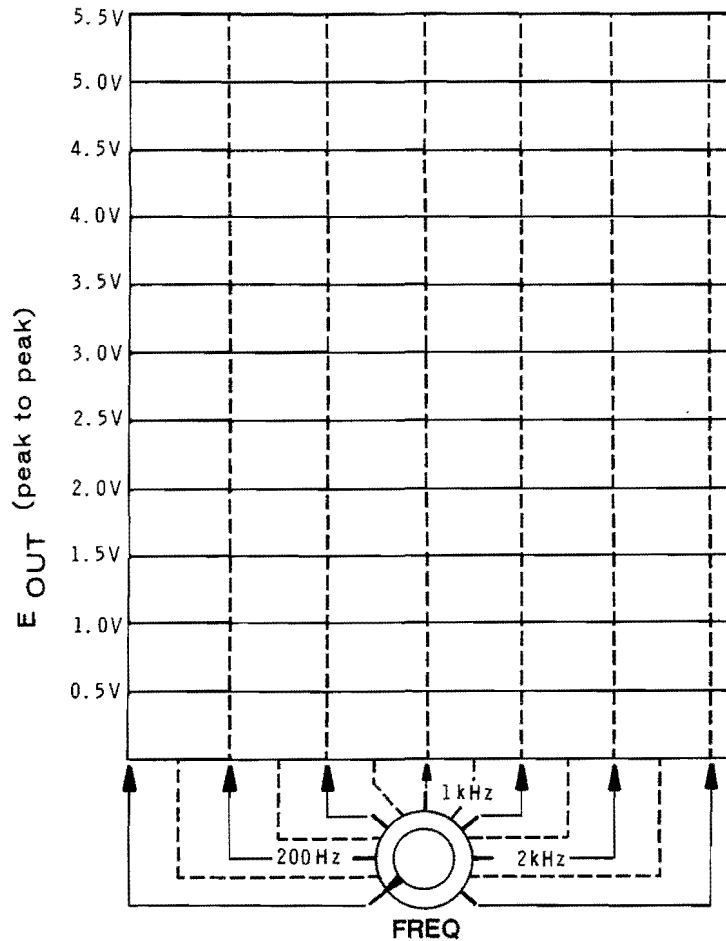

Figure 3-82
29. Using a pencil, mark this voltage on the far left vertical line of Figure 3-82.
30. Using the procedure outlined earlier in Steps 5, 6, and 7, plot the response curve in Figure 3-82. Do not, however, change the position of the 1 kilohm potentiometer, this time.